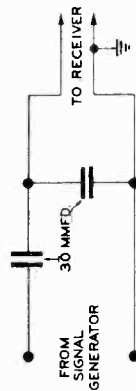

Figure 12. Dummy Antenna
3. Connect signal generator leads through dummy illustrated in figure 12 to antenna receptacle on the receiver.
Figure 12 shows the schematic of a recommended dummy antenna closely resembling actual antenna capacity to be used when aligning the R.F. section of the receiver.
1. Connect signal generator leads through dummy illustrated in figure 12 to antenna lead in socket on receiver.